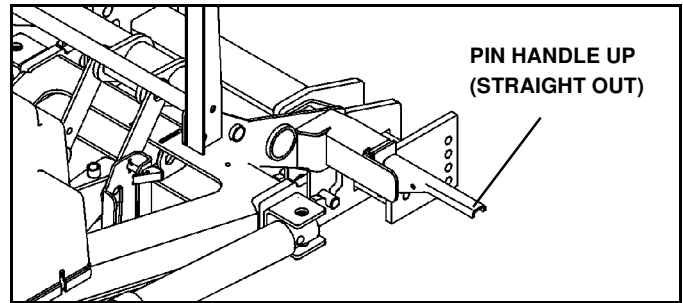

Figure 1-28
6. Rotate pin handles up (straight out) to unlock main pins. (See Figure 1-28)